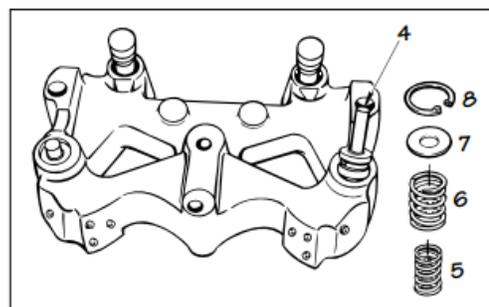

FIG. 9
2. Place the hole in the clamp fixture (2) over the slave piston adjusting screw.
3. While holding the fixture in position, screw the holder down over the slave piston (4) until the spring retainer (7) is contacted (see Fig. 9).
4. Turn the handle slowly until the retainer is depressed about 0.040" (1 mm), relieving pressure against the retaining ring (8).
**NOTE:** BE SURE COMPONENTS ARE REASSEMBLED IN PROPER ORDER (SEE FIG. 9).